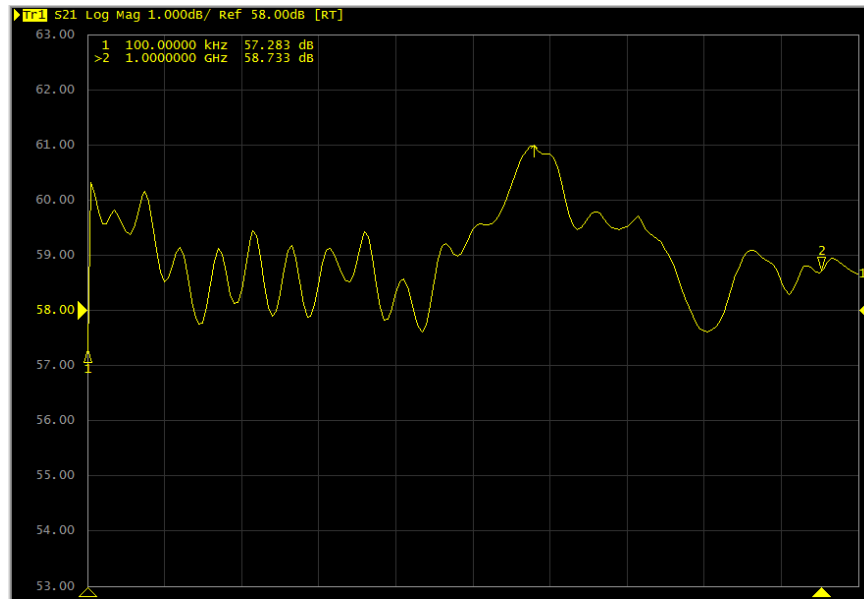
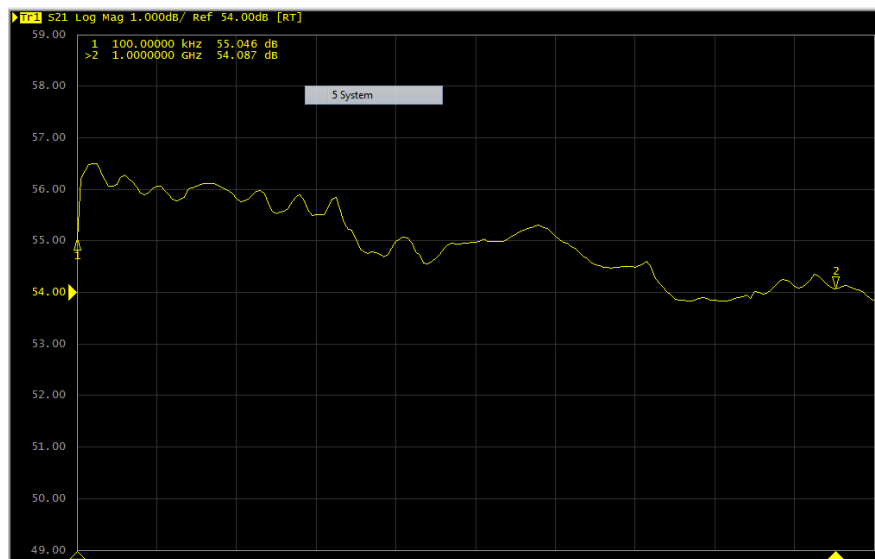

Figure 4-1. Typical Response at -20dBm Input
Figure 4-2. Typical Response at 0 dBm Input
1. The Model 250U1000's typical gain response at -20 dBm input and 0 dBm input is shown in Figure 4-1 and Figure 4-2. The actual gain may vary considerably from that shown in Figure 4-1 but should be ≥ 53 dBm across the band at 0dBm input.